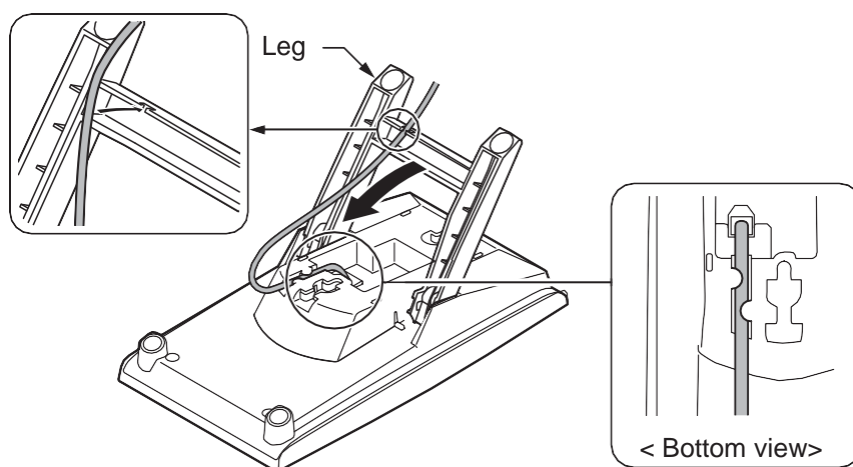

Figure 2-103 Cabling for Wall-Mount
1. Lift the leg and lead the cable through the applicable grooves. Refer to Figure 2-103 Cabling for Wall-Mount. Lower leg to stowed position.